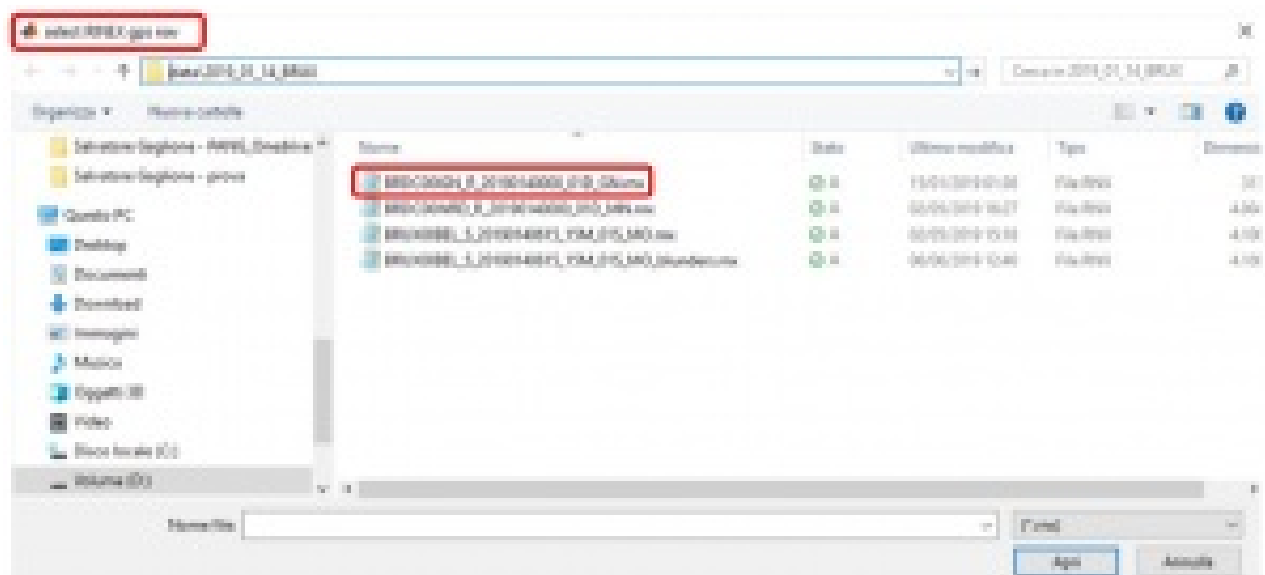

Figure 5
- one RINEX GPS navigation (3.2 version) file (figure 5).